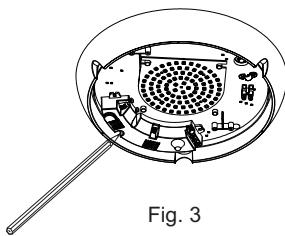

Fig. 3
- Step 3: Put the base of the product on the ceiling to make the drilling mark (as Fig.3)